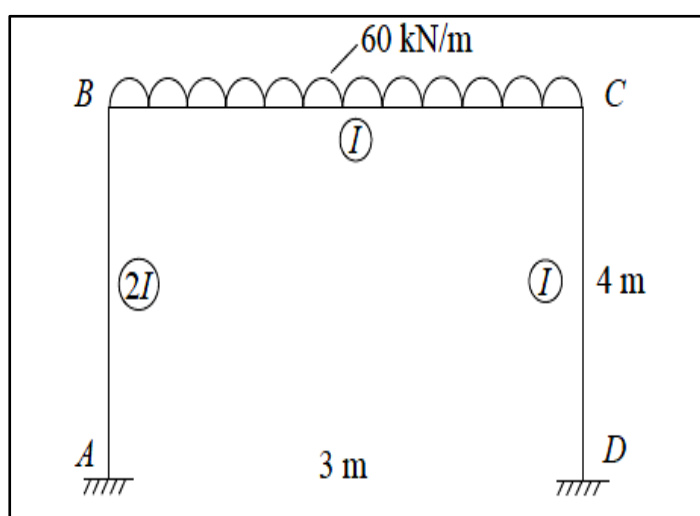

Fig.2
3. Analyze the portal frame as shown in Fig.2 by the Moment Distribution method. Draw the bending moment diagram.